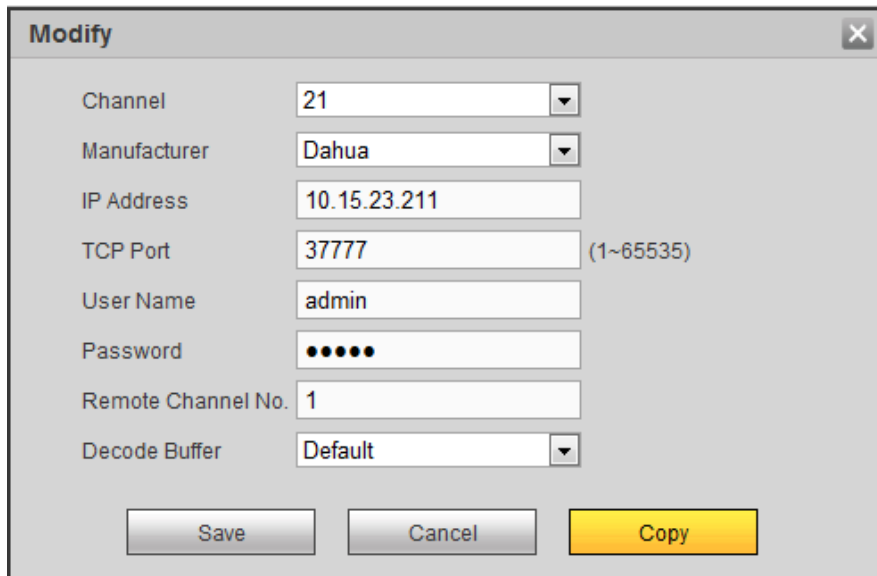

Figure 5-29
- Click  or double click a device in the added list. Device pops up the following dialogue box. See Figure 5-29.